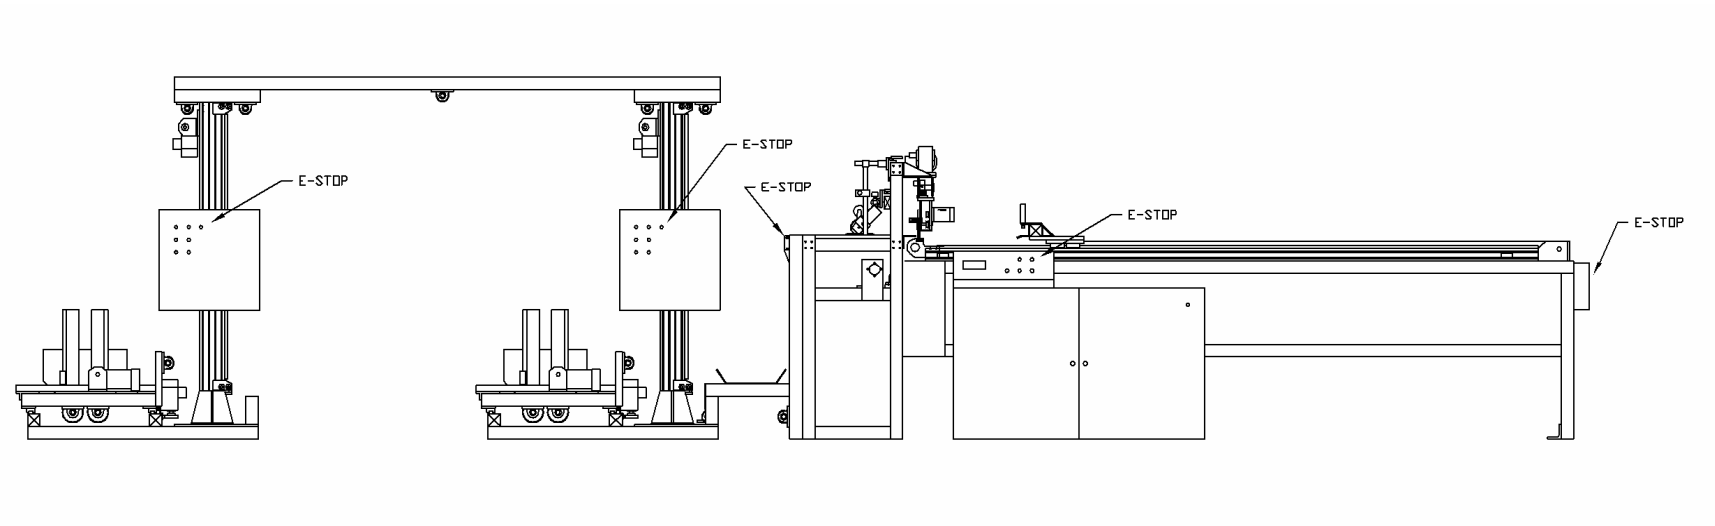

Figure 2.10: E-STOP Locations
- Step 3: Confirm that all E-STOPS are in working order. Do not forget to check the E-STOPS found on the dancer units as well. See Figure 2.10 for E-STOP locations.